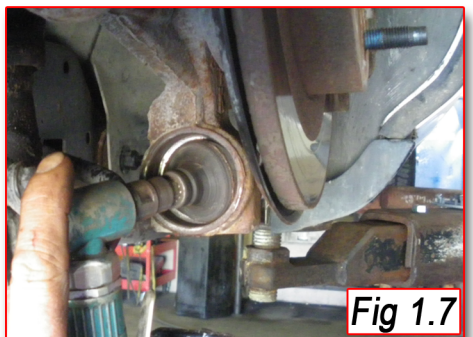

Fig 1.7
7. Thoroughly clean cylinder of all debris. **(Fig 1.7)** Inspect for nicks or obstructions. Use care not to oversize the diameter.